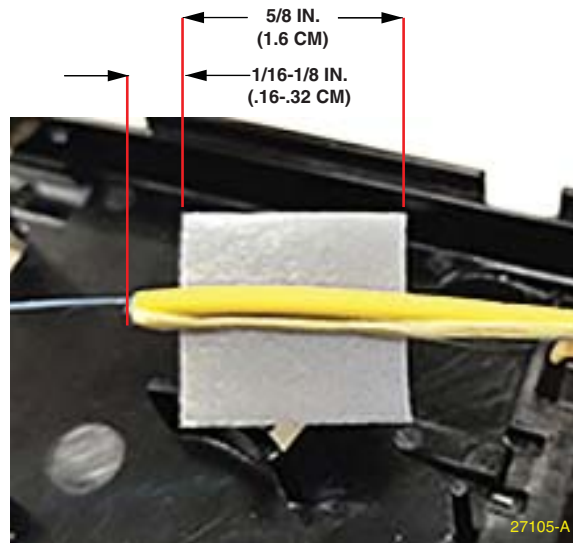

Figure 5. Centering Foam Piece
5. Cut a 5/8 inch (1.6 cm) piece from the foam strip and remove the paper liner. With the adhesive side up, center the cable on the foam piece, leaving 1/16-1/8 inch (.16-.32 cm) exposed, as shown in Figure 5.